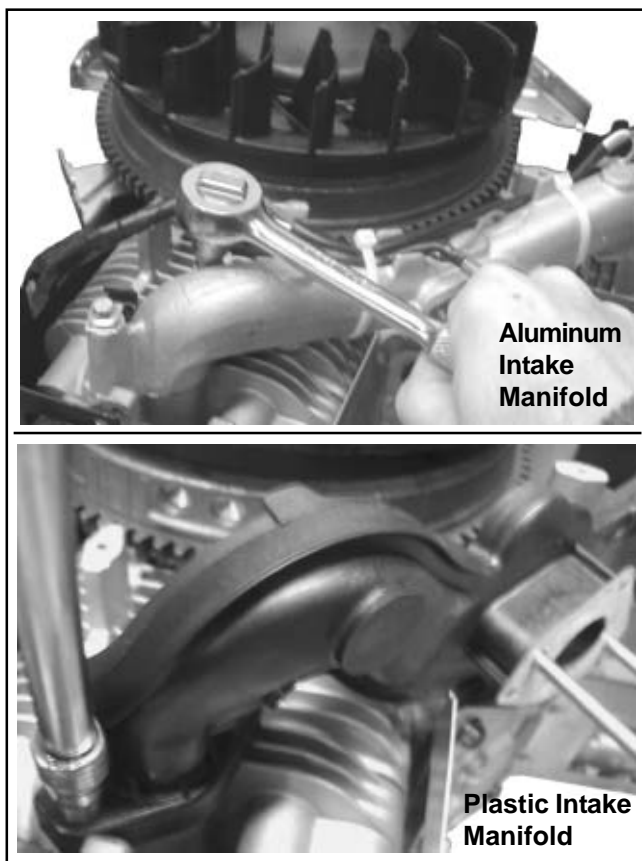

Figure 9-34. Removing Intake Manifold.
2. Remove the intake manifold and the intake manifold gaskets (aluminum intake manifolds) or O-Ring (plastic intake manifolds). See Figure 9-34.